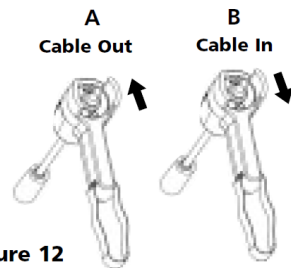
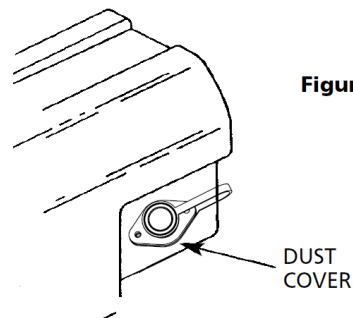
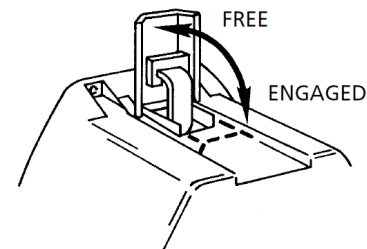

Figure 12
Figure 13
Figure 14
Lift the freespool clutch lever to the "Free" position. Pull several feet of wire rope off the drum. Return the clutch lever back to the "Engaged" position. Plug in the remote pendant control. Press the switch trigger to the "Rope-Out" position momentarily to check wire rope drum rotation and direction. If the drum rotates in the wrong direction, recheck your wiring. The Handheld pendant switch activates a solenoid that activates power to the winch motor. One solenoid is for "Rope Out" motor direction and the other is for the "Rope In" motor direction (Fig. 12).
The handheld pendant switch activates a solenoid that activates power to the winch motor. To connect the pendant control, remove the cover on the plug receptacle (Figure 13) and insert the plug end of remote switch. The plug on the pendant control cord is keyed and will fit into the socket only one way. The switch trigger returns to the "Off" position when released. To change direction, move the toggle in the other direction. (Fig.12)
Lift the clutch lever to the "Free" position as shown in Figure 13. If there is a load on the wire rope, the clutch lever may not turn easily. **DO NOT FORCE THE CLUTCH LEVER.** Release tension on the wire rope by jogging out some of the wire rope. Releasing the clutch and pull out the wire rope and secure to anchor or load. Check that there are at least five (5) turns of wire rope left on the drum. Re-engage the drum by returning the clutch lever to the "Engaged" position (see Figure 14).